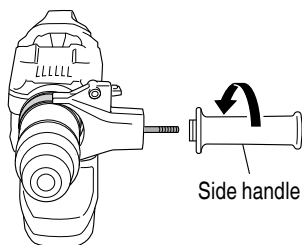

Fig. 6
- (4) Adjusting the band to a position that is suitable for the task, turn the side handle to fasten the band. Make sure that the band is securely fastened. (Fig. 6)